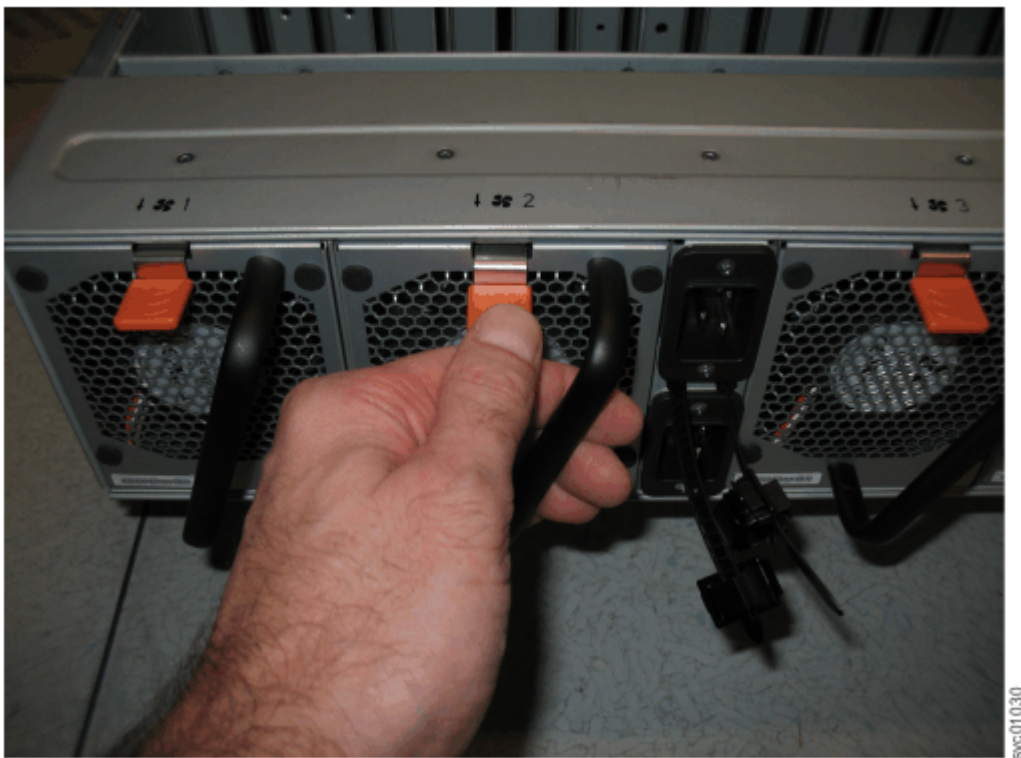

Figure 110. Fan module release tab
2. Press the release tab on the fan module, as Figure 110 on page 98 shows.